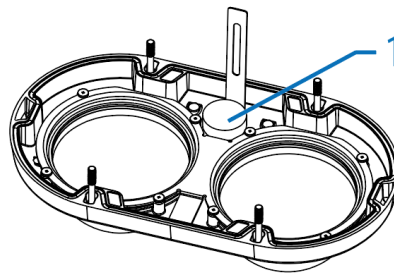

Figure 9
- Insert the desiccant bag (1) (Figure 9) into the slot on the camera dome top cover.